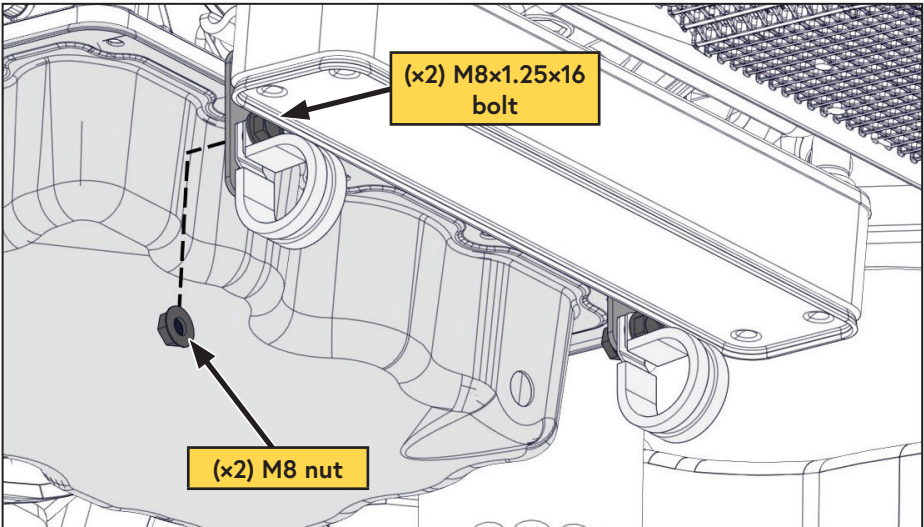

Figure 65 — Routing the hoses
- ☐ Using the supplied P-clips and fasteners, secure the hose to the 90° brackets (Figure 65).